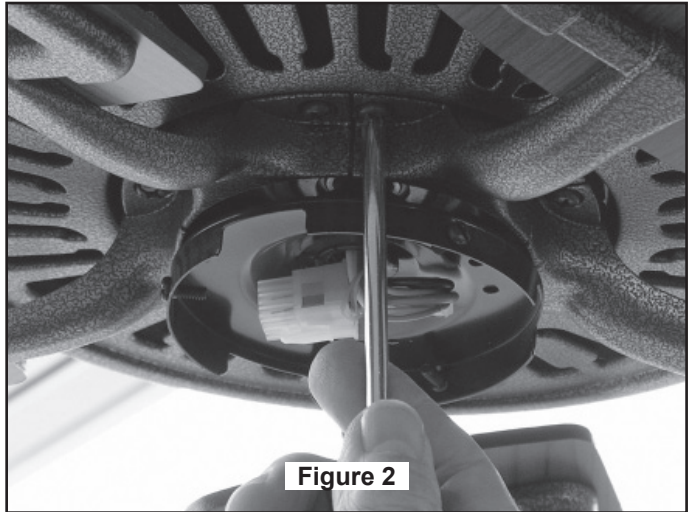

Figure 2
4. Loosen the two setscrews in the Downrod Support. Install Downrod into Coupler. Align the Clevis Pin holes in the Downrod with the holes in the Downrod Support. (Figure 2)
5. Install the Clevis Pin, Hairpin Clip and tighten Set Screws. (Figure 2) The Clevis Pin and Hairpin Clip must be properly installed to prevent the Set Screws from working loose.
1. Using the $\frac{3}{8}$ " x 2" lag bolt and flat washer, attach safety cable to ceiling joist or wood structural member. The lag bolt will pass through the flat washer, safety cable loop, the junction box and into the building structure (Figure 2). You will first drill a $\frac{1}{4}$ " pilot hole into the building structure to prevent splitting or cracking.
NOTE: Ceiling support cable must be fastened between flat washer and ceiling junction box (Figure 2).
4. Attach Blade Holders to the Motor Hub using the Screws w/Lock washers as shown in Figure 2.
5. Make sure the screws with lock washers securing the Blade Holders to the Motor Hub are tight and that the Blade Holders are properly seated. (Figure 2)
2. Assemble the Switch Cup Assembly onto the Housing Adapter with three screws. (Figure 2)